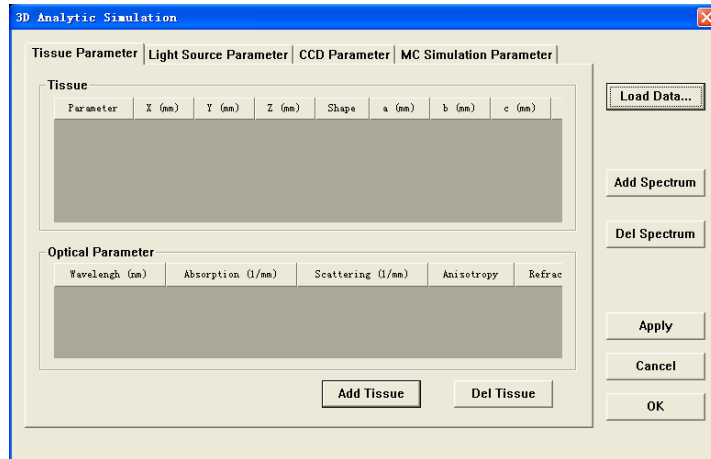

Figure 5. Input dialog box for simulation parameters
**Parameter** or click the button . The *Input Parameters* window appears (See Figure 5). There are four different input pages named 'Tissue', 'Light Source', 'CCD' and 'MC simulation', respectively.